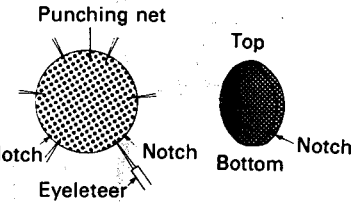

Fig. 2
■ HOW TO REMOVE THE PUNCHING NET (Fig. 2)